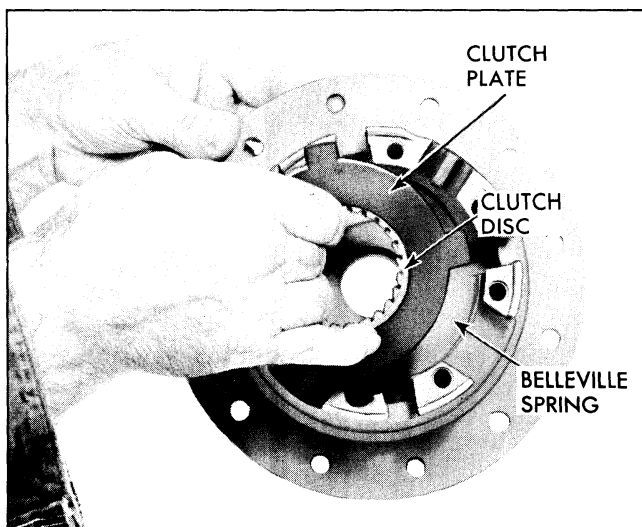

Fig. 4-66 Installing Belleville Spring, Clutch Discs and Plates
1. Hold differential case flange half on its side and install Belleville spring clutch discs and plates as shown in Fig. 4-66.